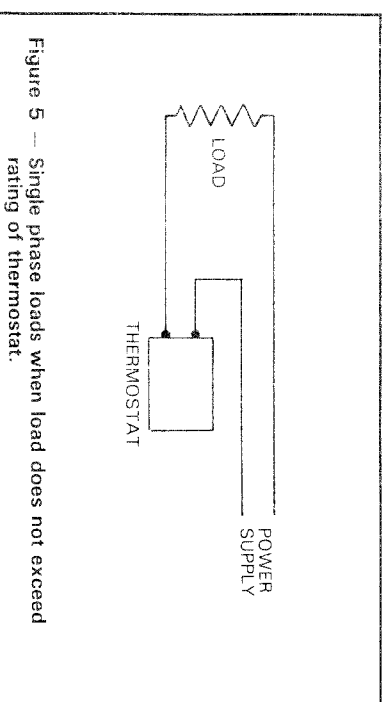

Figure 5 — Single phase loads when load does not exceed rating of thermostat.
2. Connect wires according to wiring diagram. (Figure 5 or 6) **NOTE:** Electrical connections should be made with generous loop of wire — approximately 6" per lead.
- DO** connect controller leads in series with the load and power supply (See Figure 5 & 6).